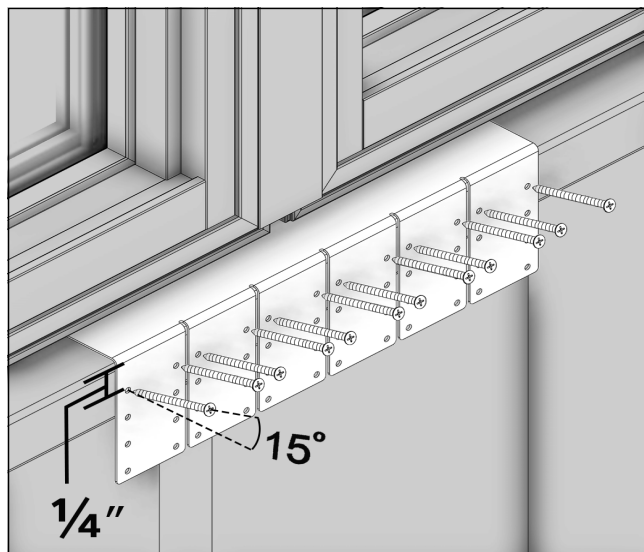

Figure 8 Fasten gusset
9. Bend the gussets against wood framing as shown in Figure 8. Attach the gusset with twelve #8 x 1-5/8" flathead screws. Make sure that the screws are no more than 1/4" from the bend in the bracket (the edge of wood buck). Angle the screws approximately 15° toward the thicker part of the framing member. *NOTE: It may be necessary to drill two 5/32" holes in the bracket.*